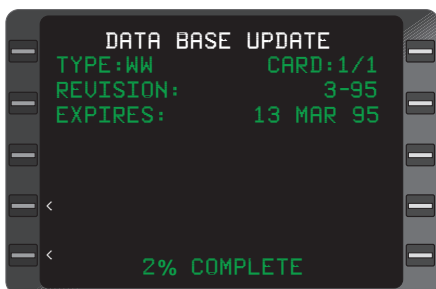

Figure 5-2
6. With cursor over option **1**, **ENTER** Key - DEPRESS. The Update - Data Base Page and, the message "X" % **COMPLETE** appear indicating the update is in progress. (Figure 5-2)